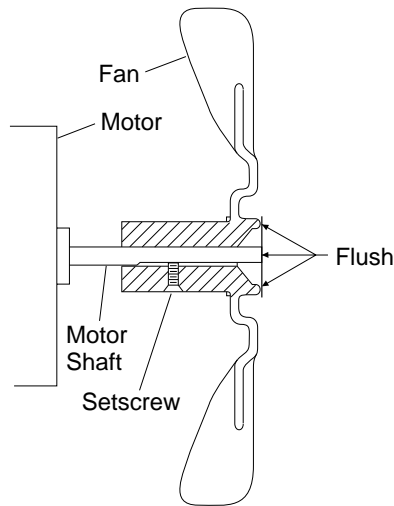

Figure 5 - Fan Cross Section
6. Replace fan on motor shaft. Place fan hub flush with end of motor shaft (see Figure 5).